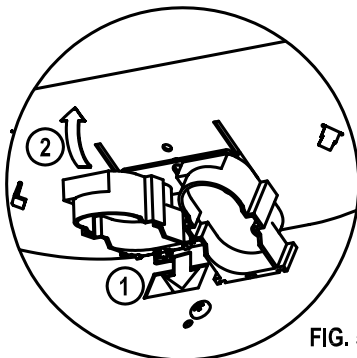

FIG. 5
4. INSTALL SOCKETS AS SHOWN (FIG. 5), CONNECT POWER TO LUMINAIRE VIA KNOCKOUT LOCATED ON TOP OF HOUSING AND INSTALL LAMPS (BY OTHERS).